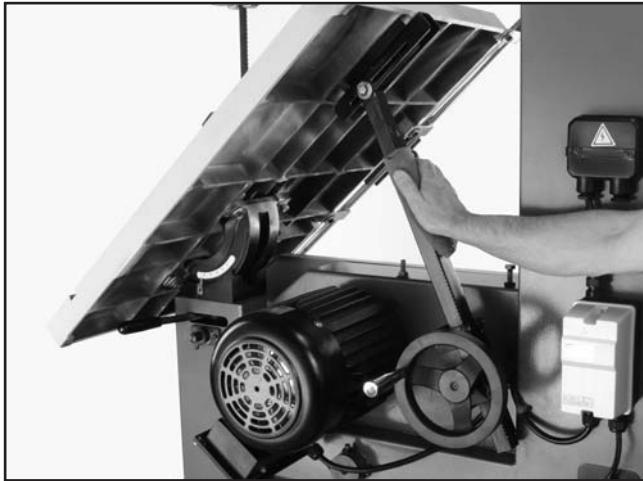

Figure 47. Table tilt rack and pinion assembly.
3. Move the table up to its maximum 45° angle and wipe (**Figure 47**) off all existing grease and sawdust buildup from the rack.